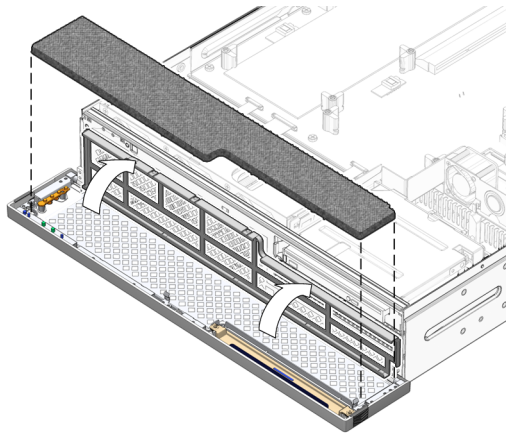

FIGURE 5-2 Removing the Air Filter
2. Grasp the tabs and lift the air filter from the bezel (FIGURE 5-2).